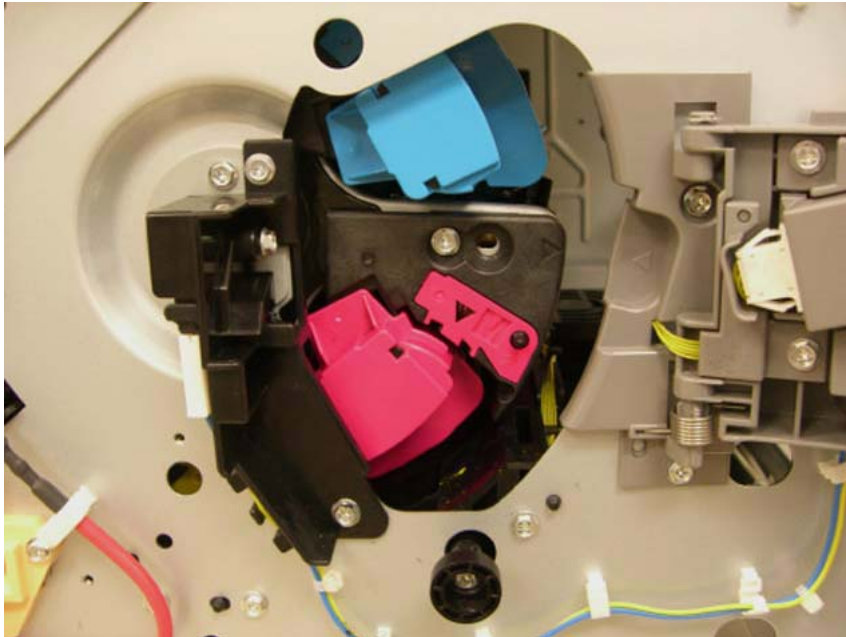

Figure 1 Positioning the Developer Rotary Assembly
5. Rotate the Developer Rotary Assembly by pushing in the lock knob and rotate the Rotary until it is in the position shown. (Figure 1)